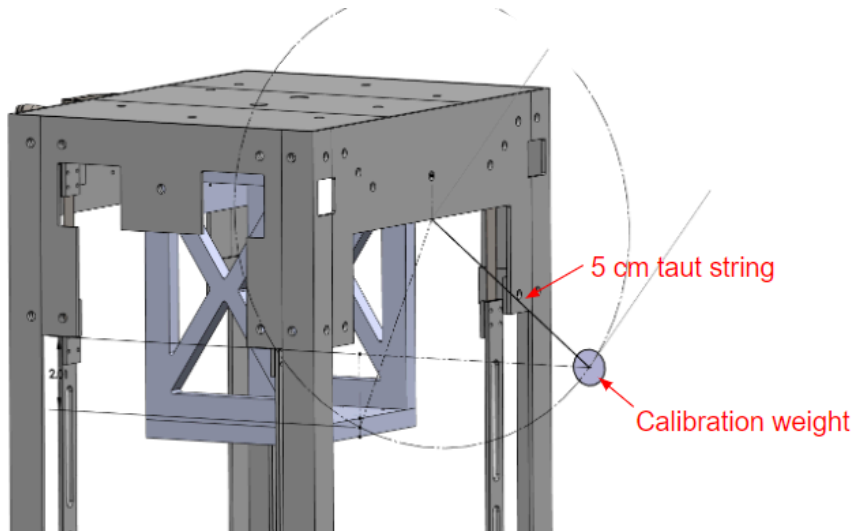

Fig. 4: System test schematic
1.10: Attached the test pendulum to the test stand such that the weight will strike the front edge of the thruster shelf within an angle range of 15° to 30° from the vertical as shown in Fig. 4.
4.01: Pull test weight into position as shown in Fig. 4, then release.	OK? _____
4.04: Pull test weight into position as shown in Fig. 4, then release.	OK? _____